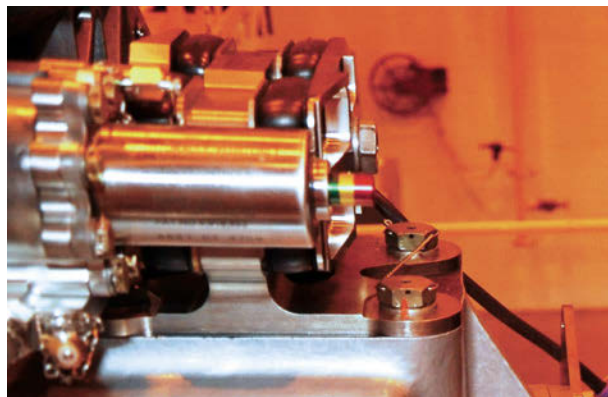

Figure 71-32. HTCS Reservoir
- Figure 71-32. HTCS Reservoir.